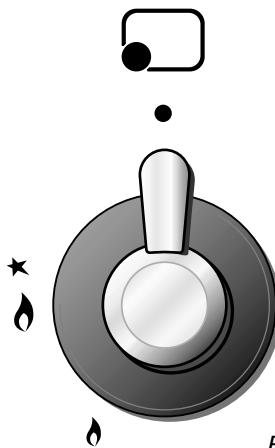

Fig. 4.3
Each hob burner is controlled by a separate gas tap operated by a control knob (fig. 4.3) which has 3 positions marked on the control panel, these are:
- 1) Lightly press and turn the knob anti-clockwise, and make the symbol  printed on the knob to match with the indicator on the control panel (fig. 4.3).